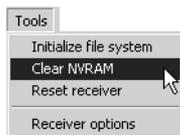

Figure 4-15. Tools->Clear NVRAM
2. Click **Tools->Clear NVRAM** (Figure 4-15). The REC LED rapidly flashes green and red; the STAT LED flashes red.